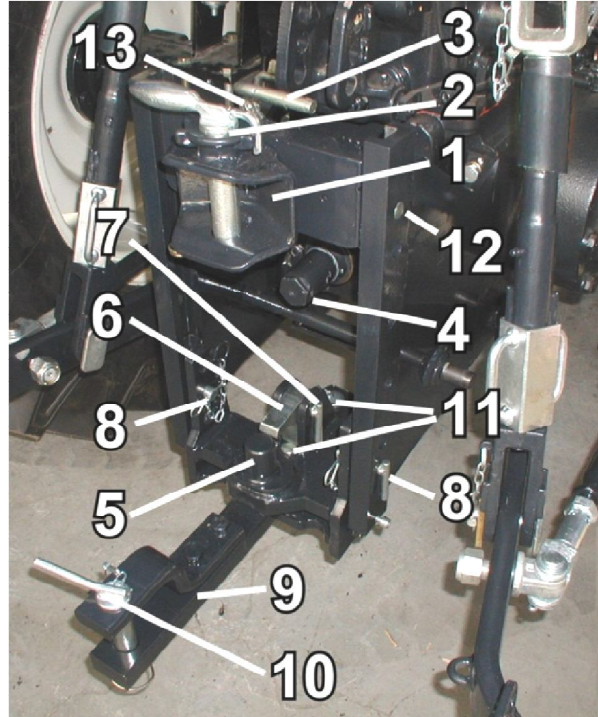

Fig. 4.6.2. Hitches
- shift the upper transport hitch to top position (1 - Fig. 4.6.2),
- remove the drawbar (9 - Fig. 4.6.2) after putting out pins (11 - Fig. 4.6.2),
Upper transportation hitch (1 - Fig. 4.6.2) – is used for hitching a two-axle trailers.
The hitch is movable in vertical plane. To change the hitch position, push the hitch adjustment lever lock button (13 - Fig. 4.6.2) and pull the adjustment lever (3 - Fig. 4.6.2) upwards to move out lock pins from slide ways holes (12 - Fig. 4.6.2). With the same lever shift the hitch for required height and put down the lever to let the pins enter holes in slide ways and lock the hitch at required height.
Tractor drawbar (9 - Fig. 4.6.2) – is used for hitching trailed single-axle machines and implements.
Lower transportation hitch (5 - Fig. 4.6.2) – is used for hitching single-axle trailers and implements with 50 mm dia. hitch-ring. To attach a trailer put up and move backwards hitch lock (6 - Fig. 4.6.2) then put the lock and secure with pin (7 - Fig. 4.6.2).